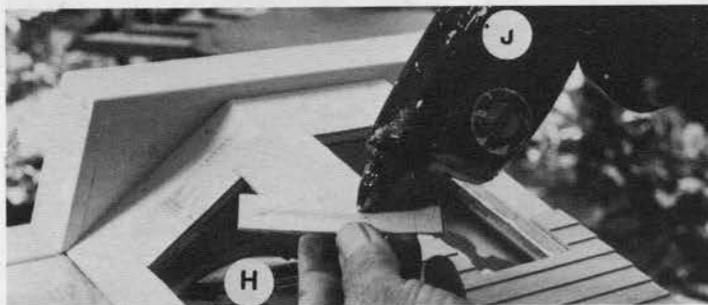

**Fig. D-7**
Always bring up all areas of the wall equally, in (FIGURE D-7) you will see that short panels, (E) are installed at the same level so that continuous panel, (F) will fit properly all along its length.